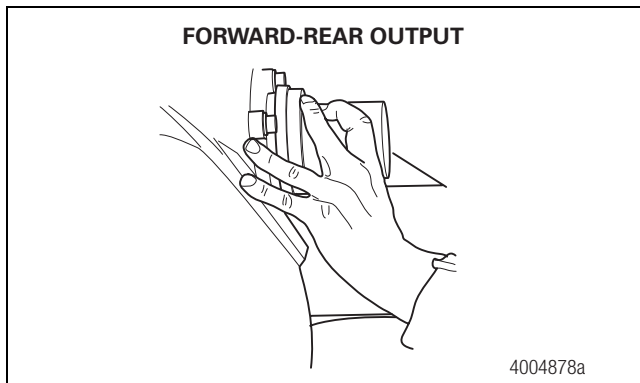

Figure 10
7. Install the forward-rear axle output seal. Hold the sleeve and seal only on the outer diameter. Position the seal onto the seal driver and align it with the forward-rear axle output shaft. Do not touch the lips in the inner diameter of the seal. Use a dead-blow hammer and the appropriate driver to install the seal onto the output shaft. Figure 10.